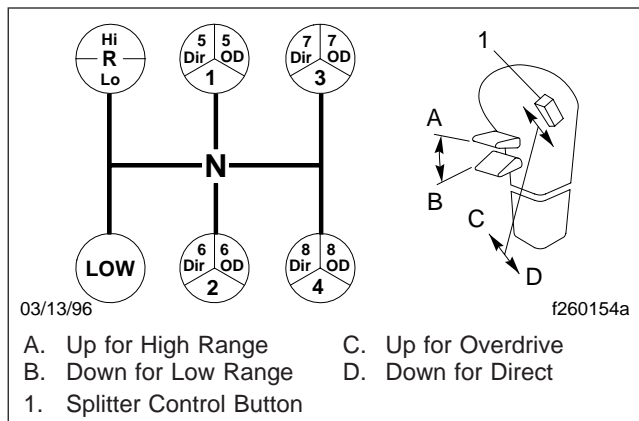

Fig. 8.18, Meritor 13-Speed Transmission Shift Pattern
Meritor 13-speed transmissions have thirteen forward speeds and two reverse speeds. Each transmission consists of a 5-speed front section, and a 3-speed auxiliary section. The auxiliary section contains low- and high-range ratios, plus, an overdrive splitter gear. See Fig. 8.18.
4. While in 5th direct, and ready for the next downshift, push the range selection lever down into low range. Double-clutch through neutral, and shift into 4th gear. See **Fig. 8.18**. As the shift lever passes through neutral, the transmission will automatically shift from high range to low range.